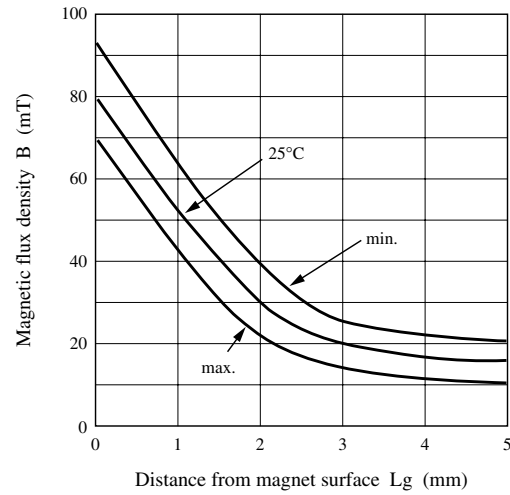

Figure 36
- 3) Take the temperature characteristics of above 1) and 2). (figure 36)